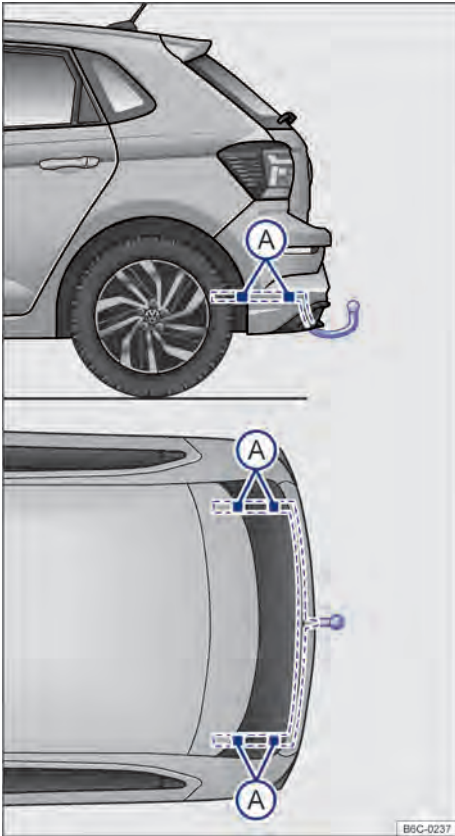

Fig. 157 Attachment points for retrofitting a towing bracket.
Figure → Fig. 157 illustrates as an example the fastening point to install a towing bracket on the Polo model.
Towing bracket retrofitting must be executed in accordance with the instructions provided by the bracket's manufacturer, always considering the attachment points indicated in → Fig. 157 (A).